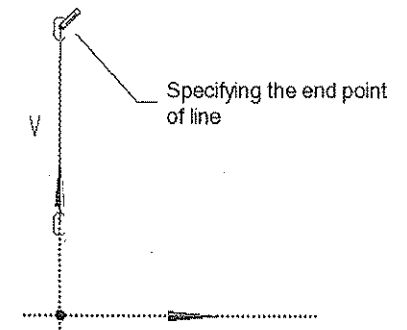

Figure 4-17 Specifying the end point of the line
8. Move the cursor upward in such a way that the symbol of Vertical constraint symbol (V) is displayed over the line and the symbol of Coincident constraint (C) is displayed at the end point of the line, as shown in Figure 4-17.